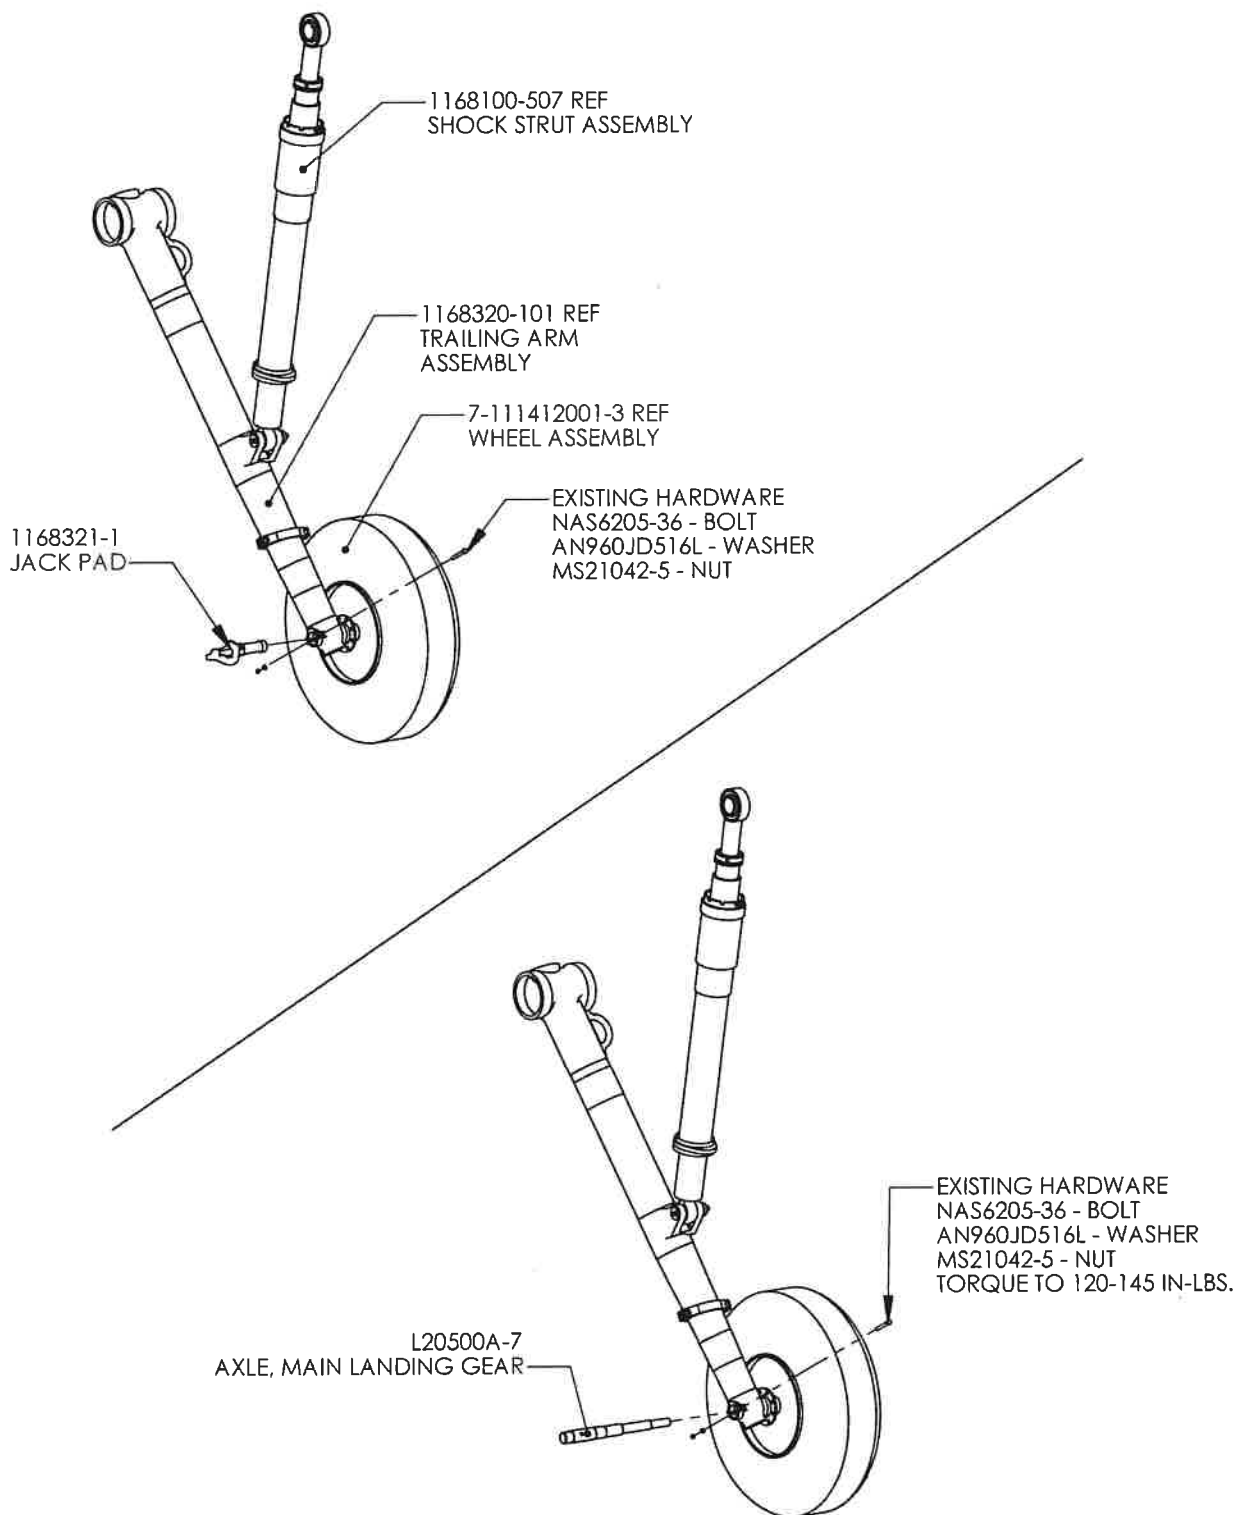

Figure 3.2
14. Remove Jack Pad (1168321-1). Keep existing hardware. *See Figure 3.2*
15. Slide Axle, Main Landing Gear (L20500A-7) into the Trailing Arm (1168320-101) axle housing. *See Figure 3.2*
17. Re-install existing hardware from Step 14 to hold Axle (L20500A-7) in place. *See Figure 3.2*